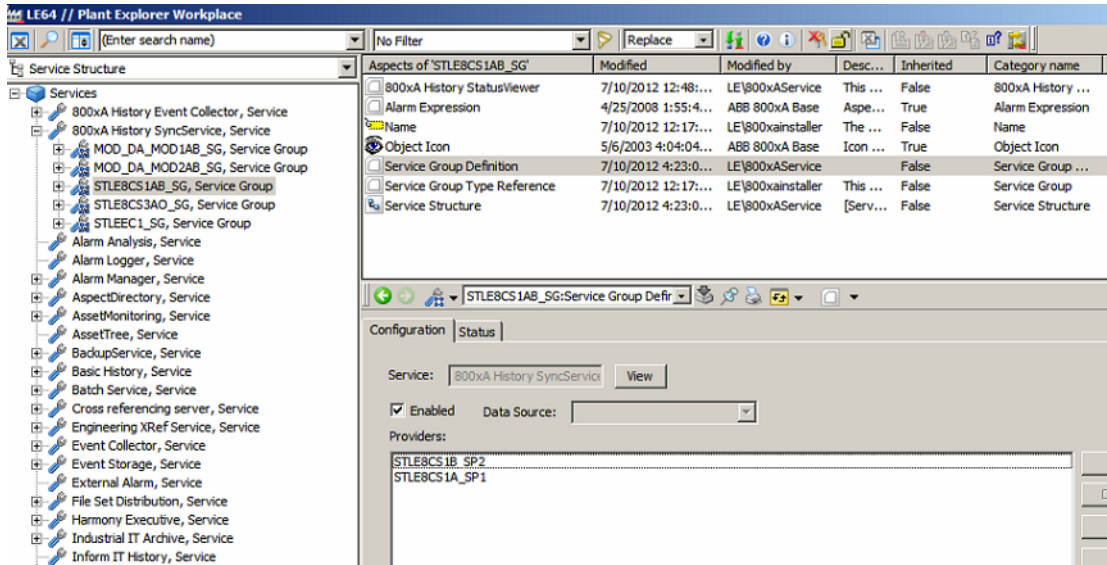

Figure 35. Sync Service in Service structure
3. Select **800xA History Embedded Data Collector Sync Service Group** in Service Structure through 800xA History SyncService, Service as shown in Figure 35.
3. Select **800xA History Embedded Data Collector Sync Service Group** in Service Structure through 800xA History SyncService, Service in the left pane of Service Structure as shown in Figure 35.